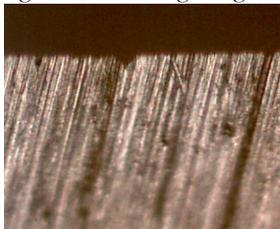
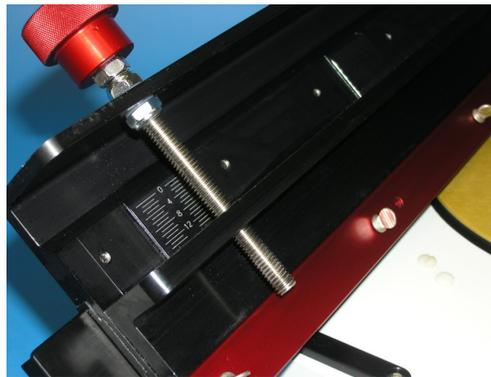

Fig.1
Fig. 3
6. **Using a Wet Wheel Grinder.** This process is limited to the grit size of the wheel. A wheel is not capable of flattening the tool and will not provide a finished edge on the tool. A wheel stop will cause rounding of the tool edge. Figure 1 shows the bevel edge of a plane iron after grinding on a wet wheel grinder. The wheel is 220 grit which is equal to 65µ. This coarse an edge will not allow the tool to work at its potential.
Figure 3 shows a cast steel chisel sharpened to a 1µ finish. The back shows the reflection of the camera and a Lap-Sharp™ label. This flat finish will provide a fine surface to meet the bevel edge.
Note: Figures 1+2 are at 200x magnification. Figure 3 is at normal magnification.